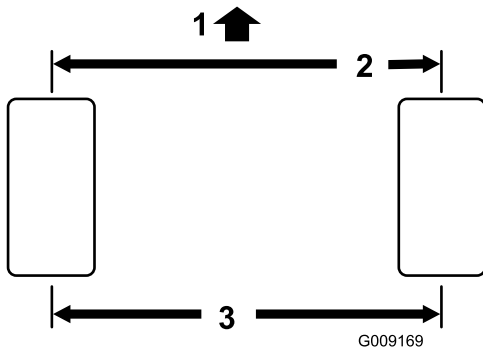

Figure 49
2. Measure the center-to-center distance (at axle height) at the front and rear of the steering tires (Figure 49).